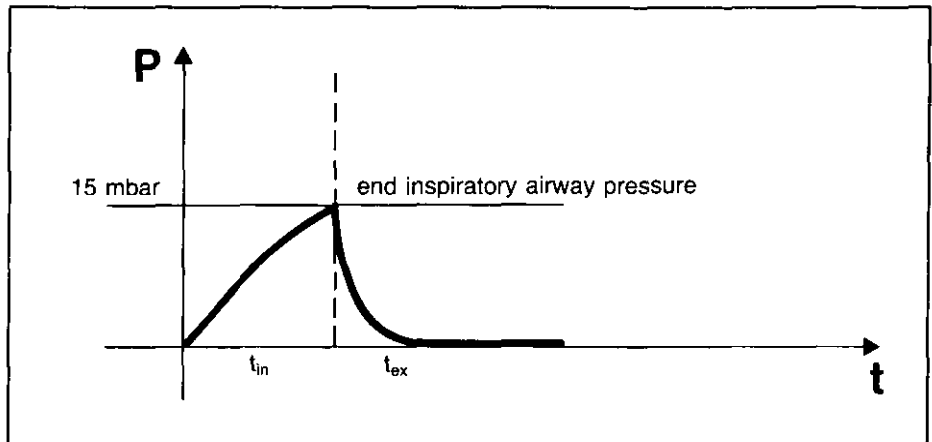

Fig. 4 Airway pressure curve with leakage (cf. Fig. 3)
2. Ventilation with leakage (a ventilation gas loss of up to 50% may occur due to leakage at the tube). Any leakage results in a lower volume per breath; the end inspiratory airway pressure is reduced at the same time (Fig. 4).